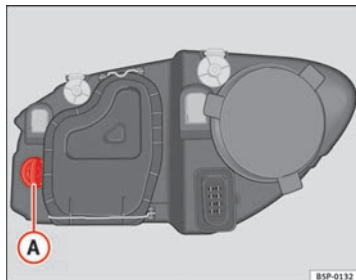

Fig. 179 Turn signal
- Rotate the bulb holder ⇒ fig. 179 **A** to the left and pull.